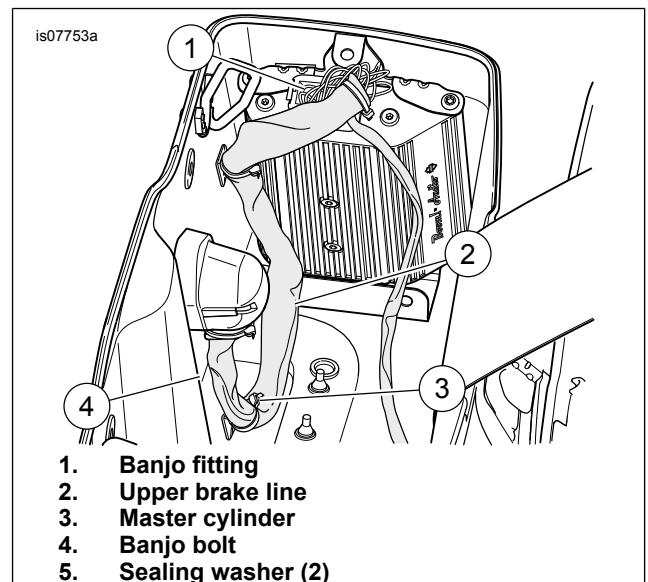
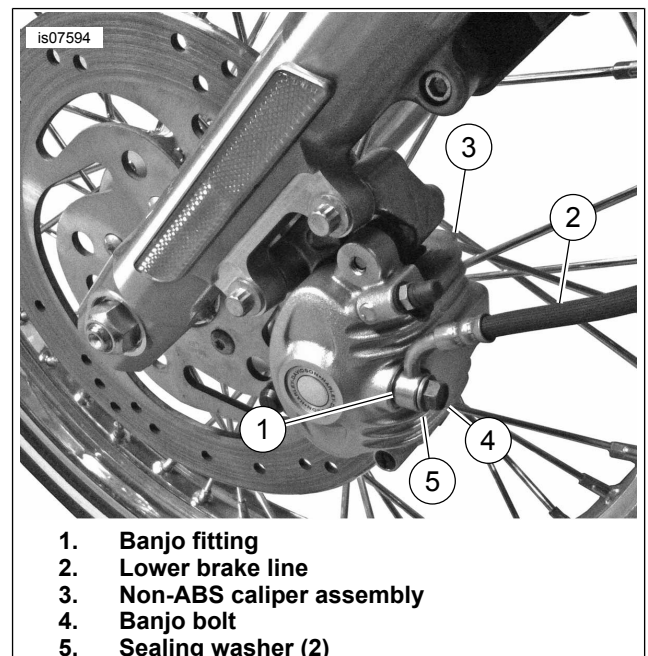

Figure 1. Upper Brake Line Master Cylinder
Figure 2. Non-ABS Lower Brake Line
2. See Figure 1 and Figure 2. Disconnect the front brake line from the front brake master cylinder and front brake caliper. Save the master cylinder and caliper banjo bolts. Discard all sealing washers.
2. See Figure 1. Install the banjo fitting (1) of the upper brake line (2) at the master cylinder (3), using the sealing washers (5) from the Upper Brake Line Kit on each side of the banjo fitting.
4. See Figure 2. Install the banjo fitting (1) to the lower brake line (2) at the caliper (3), using the sealing washers (5) from the Lower Brake Line Kit on each side of the banjo fitting.
1. Route the upper portion of the upper brake line along the handlebars (similar to the routing shown in Figure 1 ):
5. See Figure 1. Disconnect brake line (2) from the front brake master cylinder (3). Discard the sealing washers (5), but save the banjo bolt (4).
6. See Figure 1. Install the banjo fitting (1) of the new upper brake line at the master cylinder. Use a new sealing washer (5) from the Upper Brake Line Kit on each side of the fitting.
8. Route the upper portion of the upper brake line along the handlebars (similar to the routing shown in Figure 1).